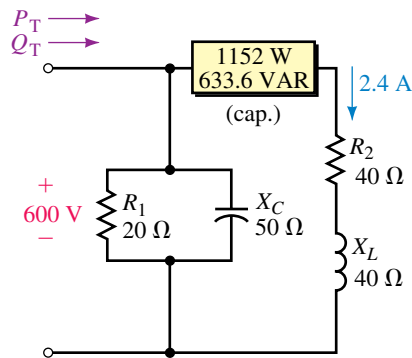

FIGURE 17-42
16. For Figure 17-42, determine the total P_T and Q_T .